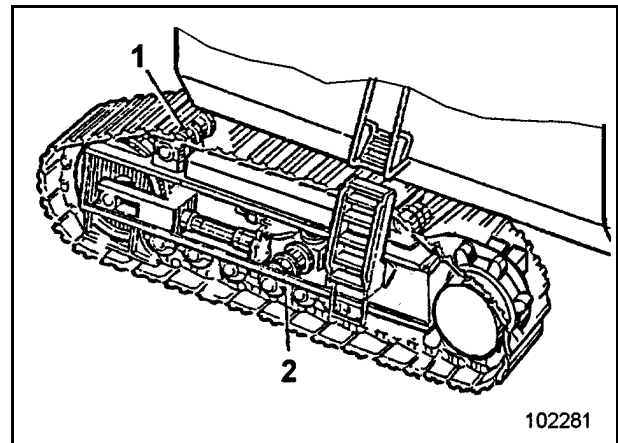

Fig. 3-120:
- clean track and support rollers (1 and 2 ,Fig. 3-120:) thoroughly;